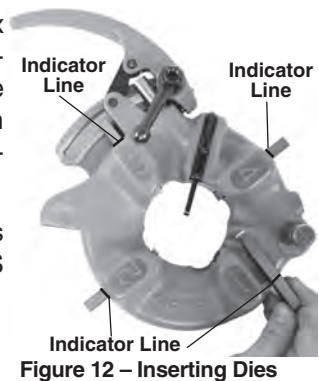

Figure 12 – Inserting Dies
6. Insert appropriate dies into the die head, numbered edge up until the indicator line is flush with the edge of the die head (see Figure 12). Numbers on the dies must correspond with those on the die head slots. Always change dies as sets – do not mix dies from different sets.